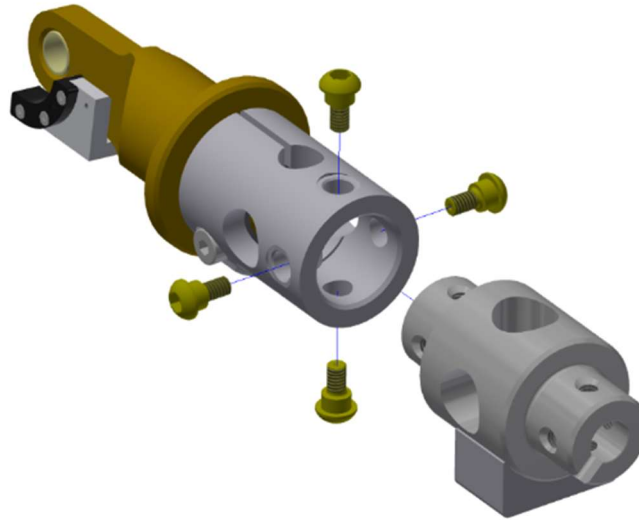

Figure 11-35. Attach the Upper Arm Load Cell Adaptor (484-6112) to the Upper-Lower Arm Load Cell Structural Replacement (484-6106)
- 11.3.11 Attach the Upper Arm Load Cell Adaptor (484-6112) to the Upper-Lower Arm Load Cell Structural Replacement (484-6106) using four Modified BHSS M6 Thread (W50-61042) (Figure 11-35).